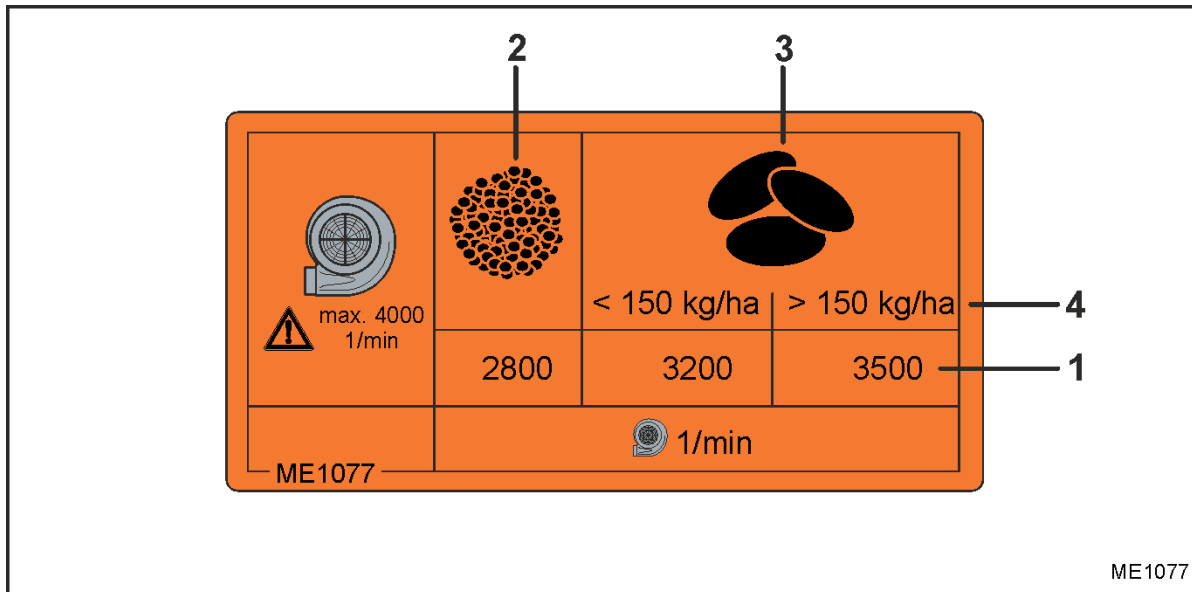

Fig. 45
The required blower fan speed (target blower fan speed) can be found in the following table (Fig. 45, page 66).
The required blower fan speed (Fig. 45/1) depends on the seed
- Fine seed types (Fig. 45/2), e.g. rapeseed or grass seed
- Grains or legumes (Fig. 45/3) and the seed rate (Fig. 45/4).
Seed type:.....Cereal (Fig. 45/3)
Seed rate: 130 kg/ha (Fig. 45/4)
Required blower fan speed (Fig. 45/1): 3200 rpm.